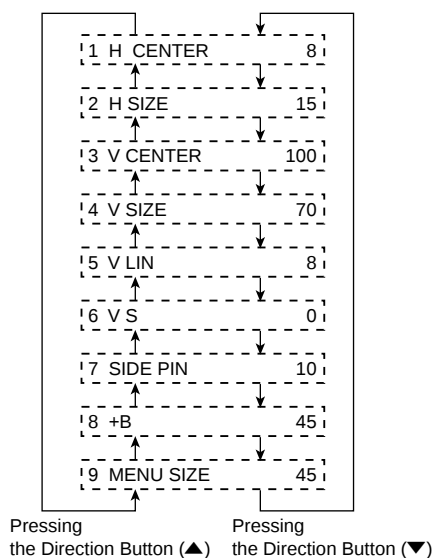

Fig. 3-3
- The items of the DEF MENU changes as shown in Fig. 3-3 by pressing the Direction Button (▼ or ▲).